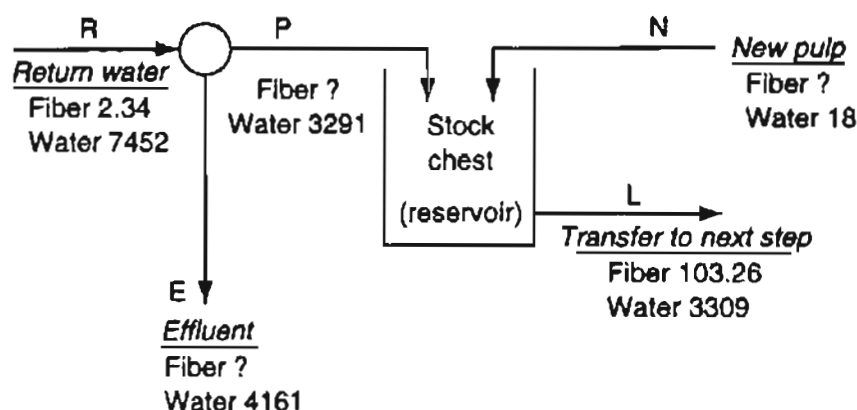

Figure P11.13
- *11.13** In a tissue paper machine (Figure P11.13), stream N contains 85% fiber. Find the unknown fiber values (all values in the figure are in kg) in kg for each stream.